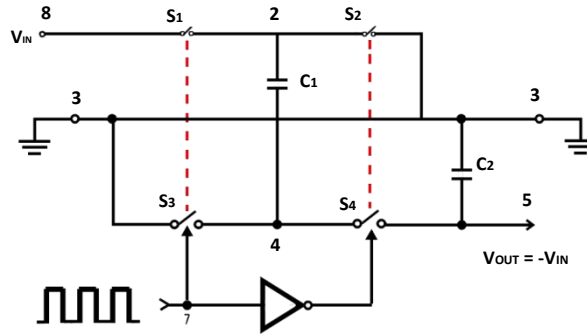
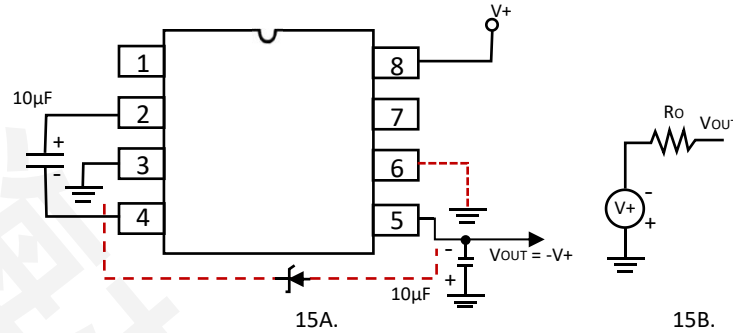
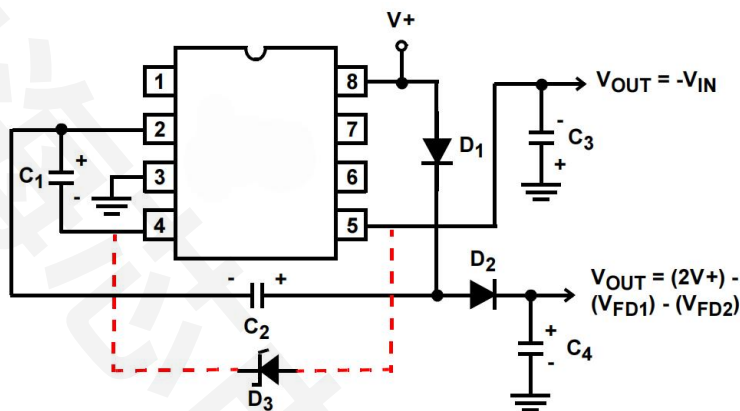
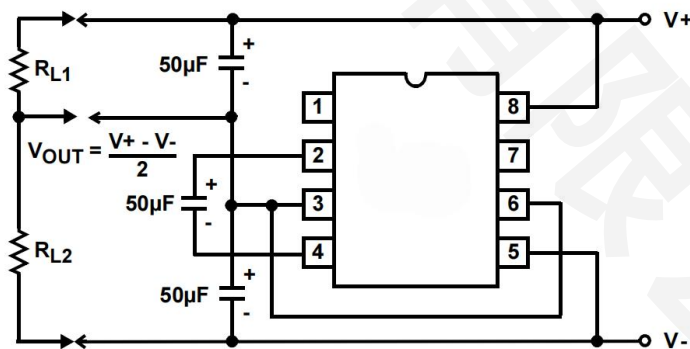

FIGURE 14. IDEALIZED NEGATIVE VOLTAGE CONVERTER
FIGURE 15. SIMPLE NEGATIVE CONVERTER AND ITS OUTPUT EQUIVALENT
FIGURE 19. COMBINED NEGATIVE VOLTAGE CONVERTER AND POSITIVE DOUBLER
FIGURE 20. SPLITTING A SUPPLY IN HALF
The ICL7660AIBA-T-HX contain all the necessary circuitry to complete a negative voltage converter, with the exception of two external capacitors, which may be inexpensive $10\mu F$ polarized electrolytic types. The mode of operation of the device may best be understood by considering Figure 14, which shows an idealized negative voltage converter. Capacitor C_1 is charged to a voltage, V_+ , for the half cycle, when switches S_1 and S_3 are closed. (Note: Switches S_2 and S_4 are open during this half cycle). During the second half cycle of operation, switches S_2 and S_4 are closed, with S_1 and S_3 open, thereby shifting capacitor C_1 to C_2 such that the voltage on C_2 is exactly V_+ , assuming ideal switches and no load on C_2 . The ICL7660AIBA-T-HX approach this ideal situation more closely than existing non-mechanical circuits.
In the ICL7660AIBA-T-HX, the four switches of Figure 14 are MOS power switches; S1 is a P-Channel device; and S2, S3 and S4 are N-Channel devices. The main difficulty with this approach is that in integrating the switches, the substrates of S3 and S4 must always remain reverse biased with respect to their sources, but not so much as to degrade their “ON” resistances. In addition, at circuit start-up, and under output short circuit conditions ($V_{OUT} = V+$), the output voltage must be sensed and the substrate bias adjusted accordingly. Failure to accomplish this would result in high power losses and probable device latch-up.
where V1 and V2 are the voltages on C1 during the pump and transfer cycles. If the impedances of C1 and C2 are relatively high at the pump frequency (see Figure 14) compared to the value of RL, there will be a substantial difference in the voltages, V1 and V2. Therefore it is not only desirable to make C2 as large as possible to eliminate output voltage ripple, but also to employ a correspondingly large value for C1 in order to achieve maximum efficiency of operation.
The majority of applications will undoubtedly utilize the ICL7660AIBA-T-HX for generation of negative supply voltages. Figure 15 shows typical connections to provide a negative supply where a positive supply of +1.5V to +12V is available. Keep in mind that pin 6 (LV) is tied to the supply negative (GND) for supply voltage below 3.5V.
The output characteristics of the circuit in Figure 15 can be approximated by an ideal voltage source in series with a resistance as shown in Figure 15B. The voltage source has a value of $-(V+)$. The output impedance (R_O) is a function of the ON resistance of the internal MOS switches (shown in Figure 14), the switching frequency, the value of C_1 and C_2 , and the ESR (equivalent series resistance) of C_1 and C_2 . A good first order approximation for R_O is shown in Equation 2:
Figure 19 combines the functions shown in Figure 15 and Figure 18 to provide negative voltage conversion and positive voltage doubling simultaneously. This approach would be suitable, for example, for generating +9V and -5V from an existing +5V supply. In this instance, capacitors C1 and C3 perform the pump and reservoir functions, respectively, for negative voltage generation, while capacitors C2 and C4 are pump and reservoir, respectively, for the doubled positive voltage. There is a penalty in this configuration which combines both functions, however, in that the source impedances of the generated supplies will be somewhat higher, due to the finite impedance of the common charge pump driver at pin 2 of the device.
The bidirectional characteristics can also be used to split a high supply in half, as shown in Figure 20. The combined load will be evenly shared between the two sides, and a high value resistor to the LV pin ensures start-up. Because the switches share the load in parallel, the output impedance is much lower than in the standard circuits, and higher currents can be drawn from the device. By using this circuit, and then the circuit of Figure 15, +15V can be converted, via +7.5 and -7.5, to a nominal -15V, although with rather high series output resistance ($\sim 250\Omega$).